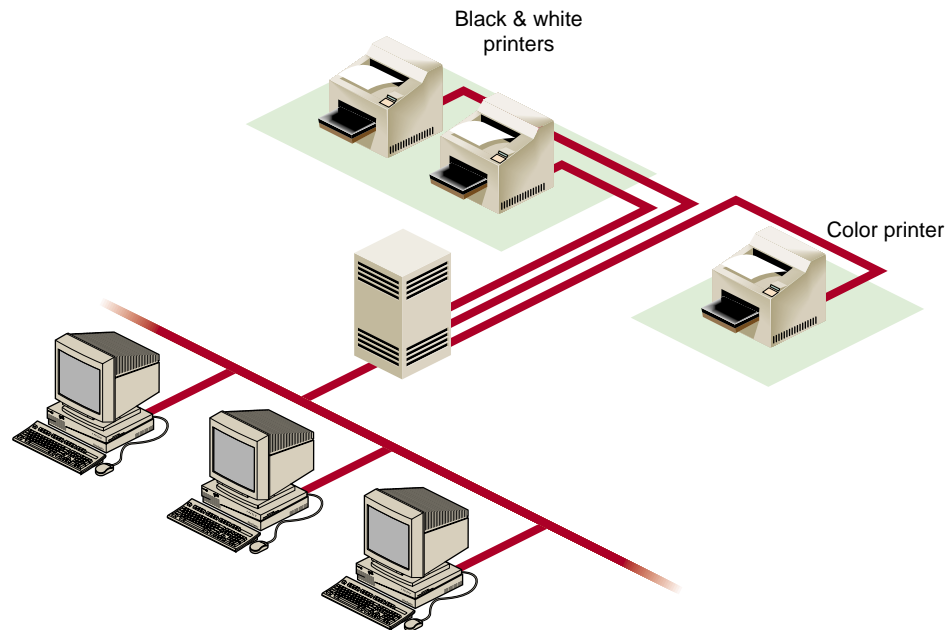

Figure 2-2 Printer Classes
- class** The name given to an ordered list of one or more printers. A printer may be assigned to more than one class but need not be a member of any class. Figure 2-2 shows printers divided into two classes: one for black-and-white printers and one for color printers.